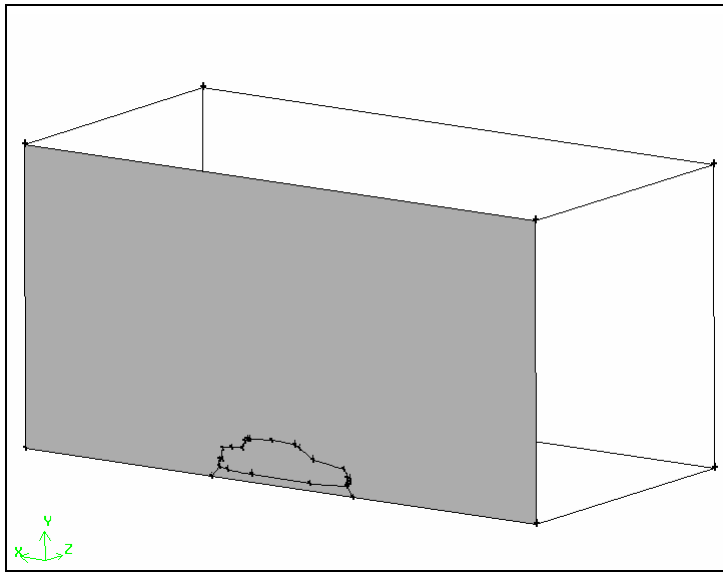

Figure 5-23: Symmetry plane of the brick
- e) *Shift*-left-click the back face of the brick (the symmetry plane) in the graphics window, as shown in Figure 5-23.
- c) Select the symmetry-plane face in the graphics window (as shown in Figure 5-23) and remember the label name (for example, *face.147*).